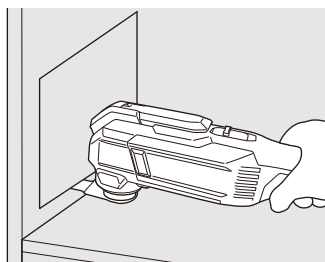

Fig. 14
- (2) Lightly place the application tool on the material and move the application tool forward at a pace where the movement isn't slowed. (**Fig. 14**)